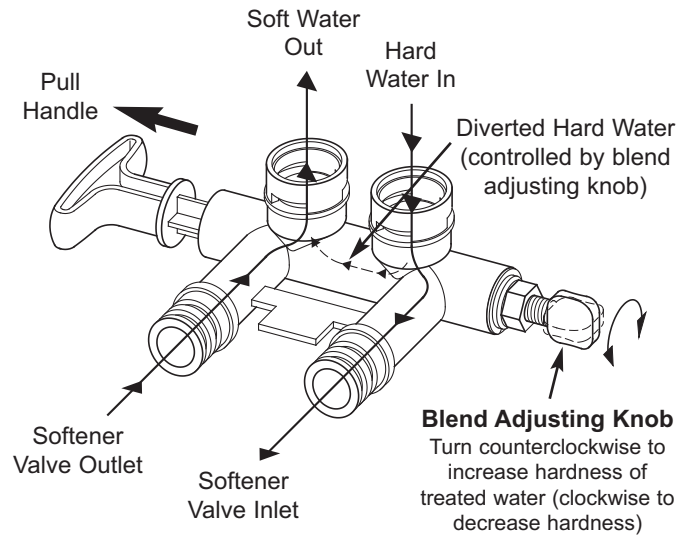

FIG. 16
The bypass blending valve works as a typical push-pull bypass valve, but has the added ability to finely adjust hardness of the treated water leaving the water softener. If slightly harder water is desired than is normally output by the water softener, this bypass blending valve can divert a small stream of hard water before it enters the water softener and blend it with the exiting softened water. The amount of water diverted is controlled by turning a blend adjusting knob on the end cap of the valve stem (See Figure 16).
1. When the bypass valve is in service position (normal softener operation), with handle pulled all the way out (See Figure 16), **increase hardness** of treated water by turning the blend adjusting knob **counterclockwise** up to 6 turns from the fully closed position. While adjusting this knob, hold the bypass valve handle to prevent the stem from rotating.